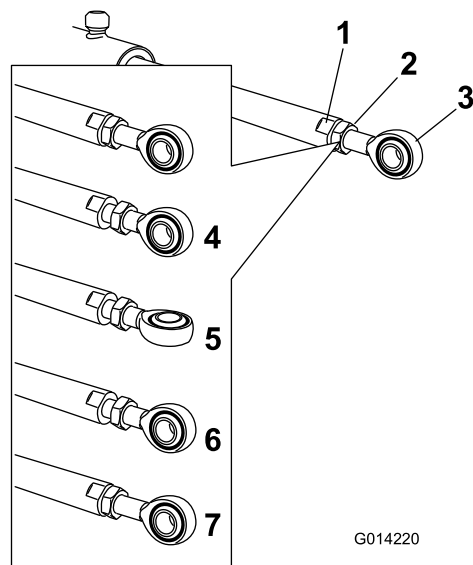

Figure 110
5. Use a wrench on the flat sides of the actuator rod to immobilize it, then loosen the jam nut to allow the eyelet rod to be adjusted (Figure 110).
6. Turn the eyelet rod in the actuator rod to shorten or lengthen the extended actuator to the desired position (Figure 110).